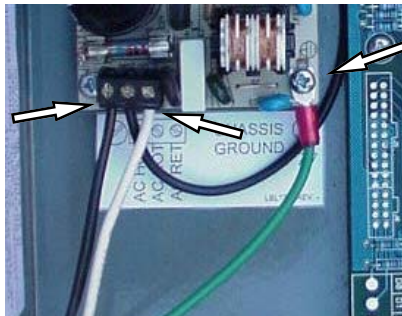

Fig 3.1 AC Wiring Close-up
5. Connect as follows (Fig 3.1):